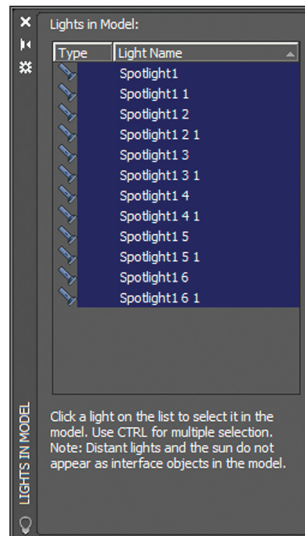

FIGURE 18.10 Selecting lights in the Lights In Model palette
14. Click the Lights panel menu (a small icon in the lower-right corner of the Lights panel) to open the Lights In Model palette (see Figure 18.10). Select the first spotlight in the list, hold Shift, and select the last spotlight in the list to select them all.